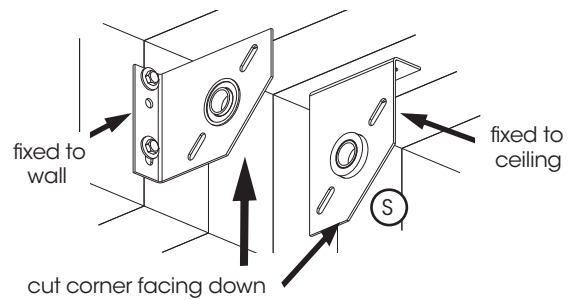

Fig: 3.4.2
- a) Determine whether the spring anchor bracket (S) is going to be mounted to the wall or ceiling as per Fig 3.4.2 and ensure the cut corner of the bracket is facing down.
- b) Place the torsion bar (B) on the floor and slide the spring anchor bracket (S) onto the torsion bar, positioning it approximately half way along.